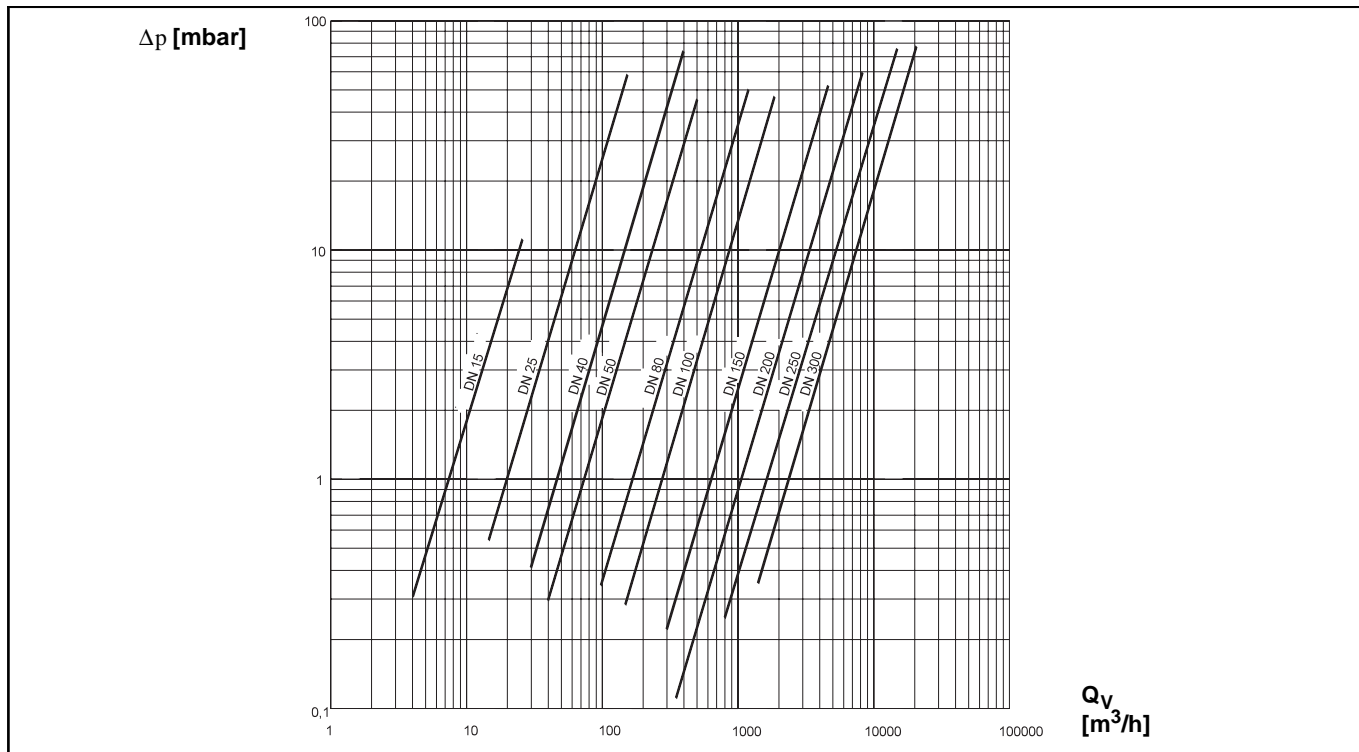

Fig.7 Pressure Drop, Air (20 °C, 1013 mbar,  $\rho = 1.2 \text{ kg/m}^3$ ), DIN-Design
- Flow range start at  $\rho = 7.4 \text{ kg/m}^3$  (from Fig. 7):
See Fig. 7 for air (at 20 °C, 1013 mbar,  $\rho = 1.2 \text{ kg/m}^3$ ) for other fluid densities the pressure drop can be calculated using the following equation:
$\Delta p$  = Air pressure drop (from Fig. 7) [mbar]